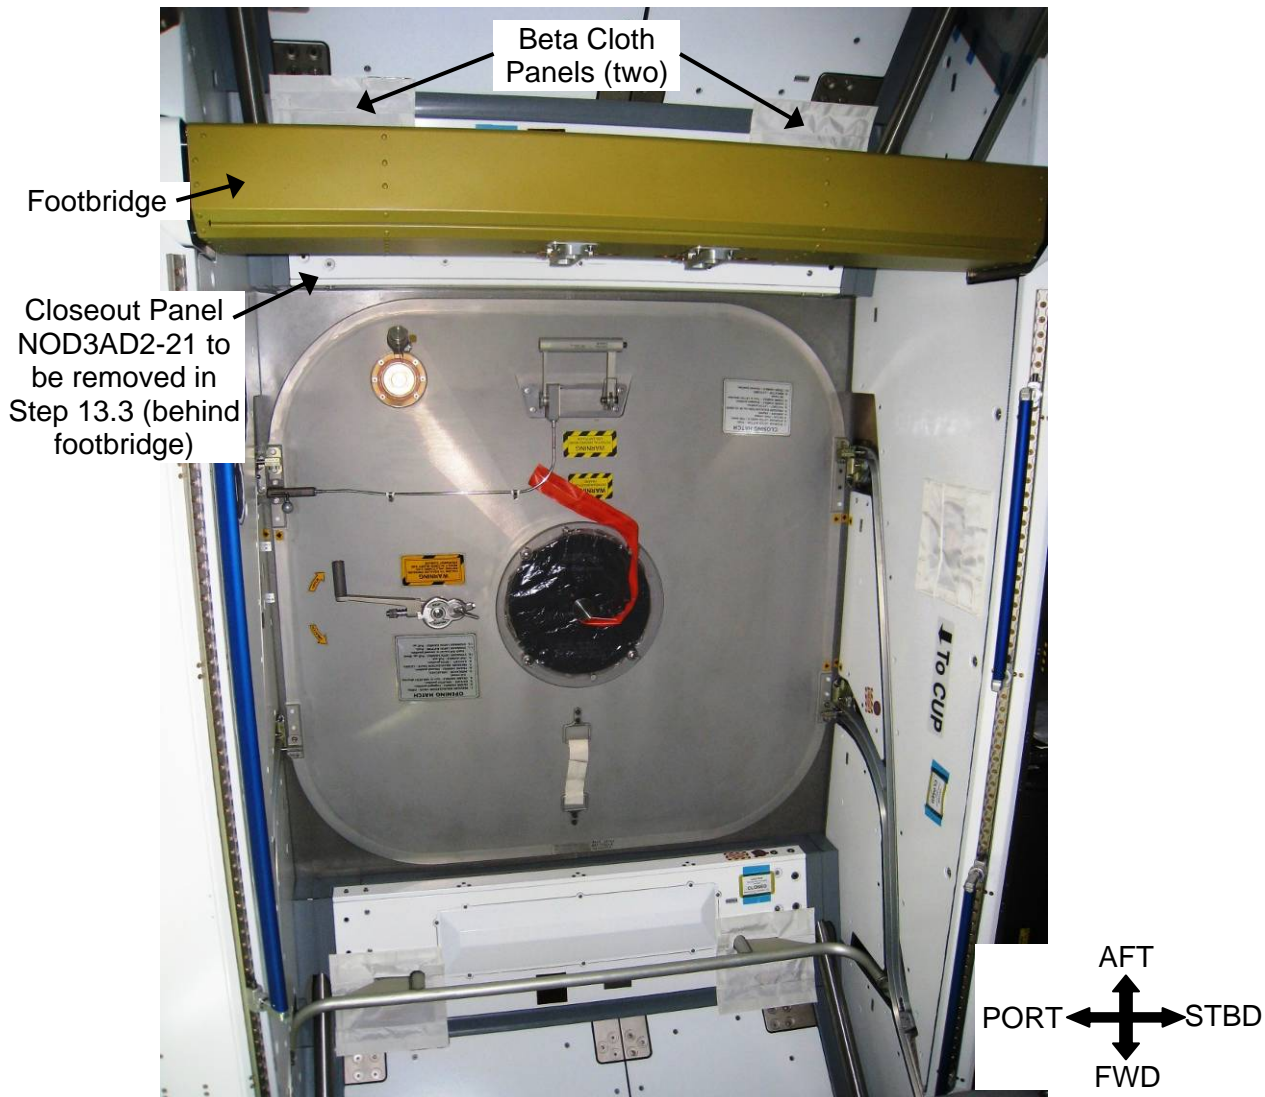

Figure 19.- Node 3 Nadir Hatch (Ground Photo).
- NOD3D2 13.1 Remove Beta Cloth Panels (two) from Closeout Panel NODAD2-21. Refer to Figure 19.
Refer to Figure 19.